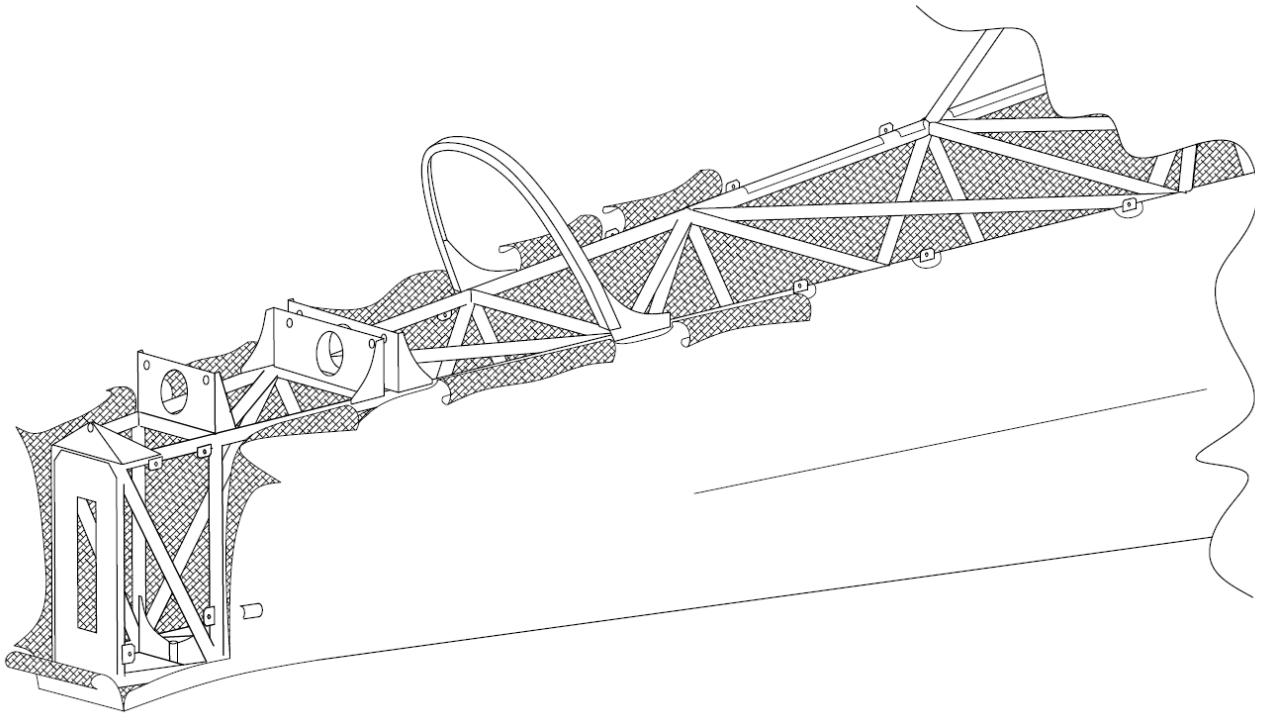

Figure 2: Removing the fabric
- Peel off fabric from upper L/H and R/H longeron, from rear facing fuselage surface and R/H lower longeron in the area of the inspection window (refer to figure 2 for detailed sketch). Do not use sharp objects that could damage the fabric while peeling it off. Fold the fabric far enough forward to have sufficient access to the area for welding. Make sure to work gently in order not to introduce cracks in the fabric paint coat finish.